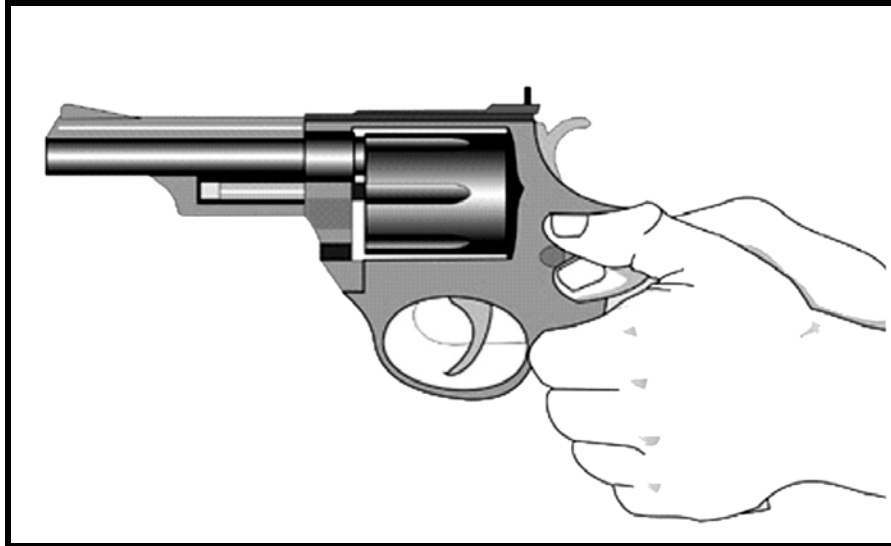

Figure 120. Two-handed grip for a revolver
**Using an incorrect two-handed grip, the thumb of the weak hand may be behind the slide. While firing a semi-automatic handgun in this manner, your weak hand can be injured by the recoiling slide. When using the grip shown in Figure 120, be certain that your thumbs do not contact the slide and are positioned on the weak-hand side of the handgun.**